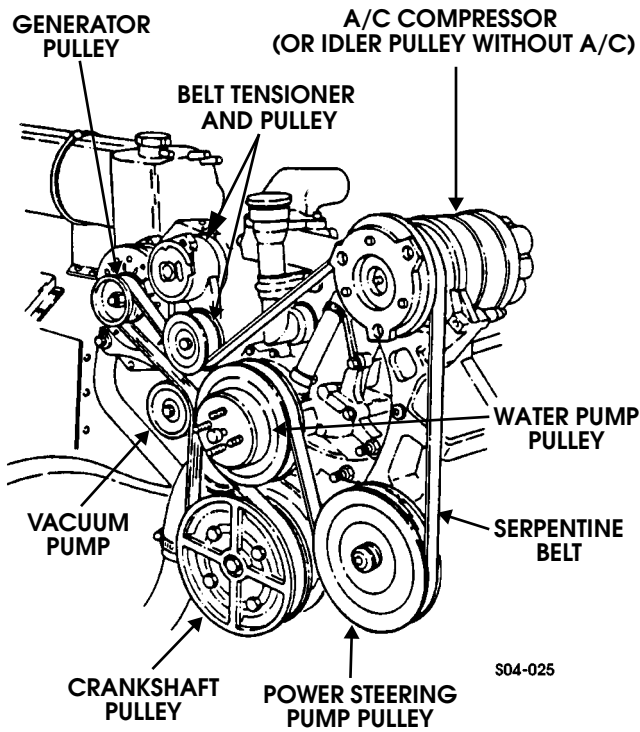

Figure 4-34: Serpentine Belt Tensioner Location
1. Insert square lug of half-inch drive breaker bar in belt tensioner. Then move tensioner counterclockwise to loosen belt (Figure 4-34).